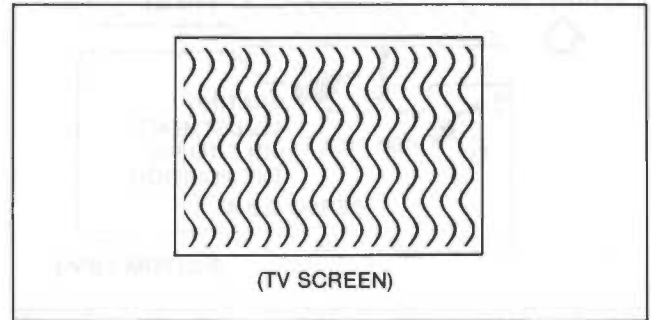

Fig. E11
- Adjust VR22301 (N-ADJ) on the Servo C.B.A. so that the beat on TV screen is minimized as shown in Fig. E11.
- Adjust VR22302 (R-ADJ) on the Servo C.B.A. so that the beat on TV screen is minimized as shown in Fig. E11.